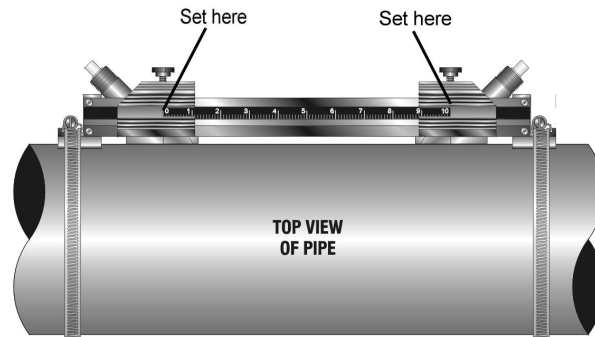

Figure 2.8 Transducer Space Measurement
5. Place the first transducer in between the mounting rails near the zero point on the mounting rail scale. Slide clamp over the transducer. Adjust the clamp/transducer so the notch in the clamp aligns with zero on the scale. See **Figure 2.8**.